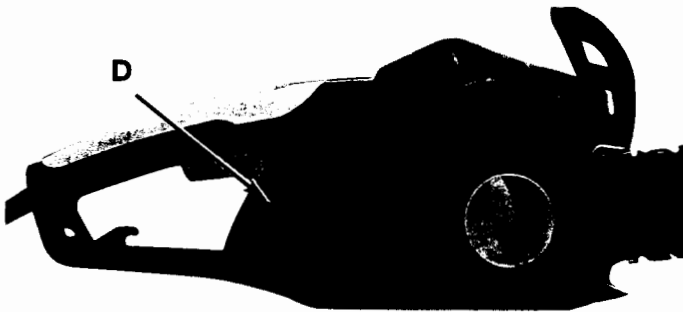

Fig. 25
You can check the oil tank level using the inspection slot (D) provided on the right side of the saw. The tank is full when oil is at the top of the slot (Fig. 25).